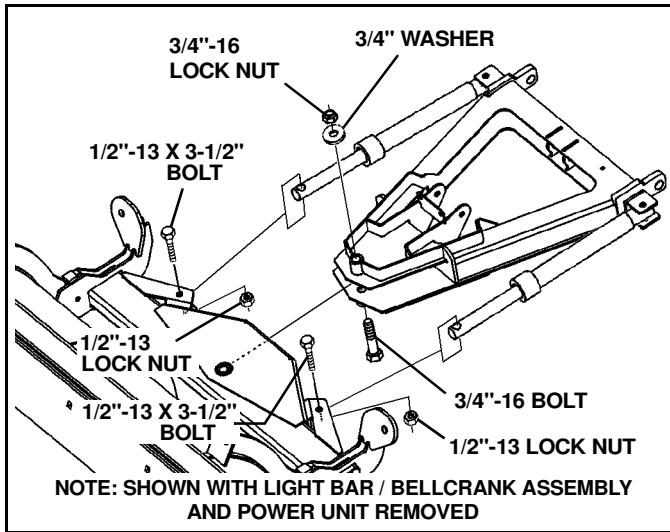
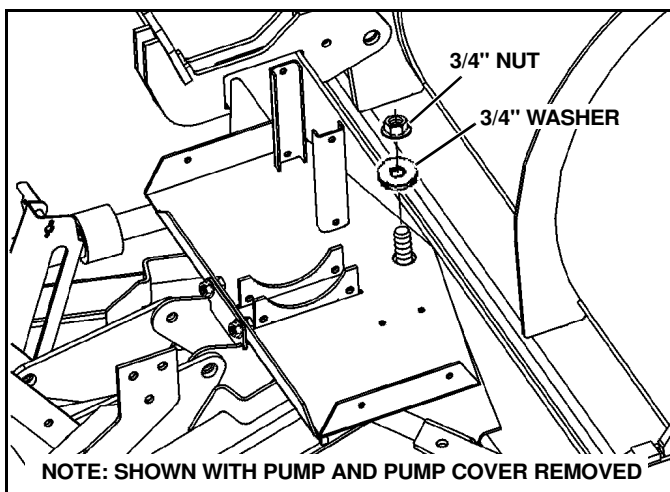

Figure 1-12
Figure 1-13
4. Remove 3/4" lock nut, washer and bolt. Slide swing frame into A-frame. Replace 3/4" bolt, washer and lock nut. Tighten hardware. (See Figure 1-12) and (See Figure 1-13).
6. Remove bolts and lock nuts from rod end of cylinders. Reconnect the power and control. Extend cylinders using plow control to align holes in cylinder rod and swing frame. Replace bolts and lock nuts. Tighten bolts. (See Figure 1-12).